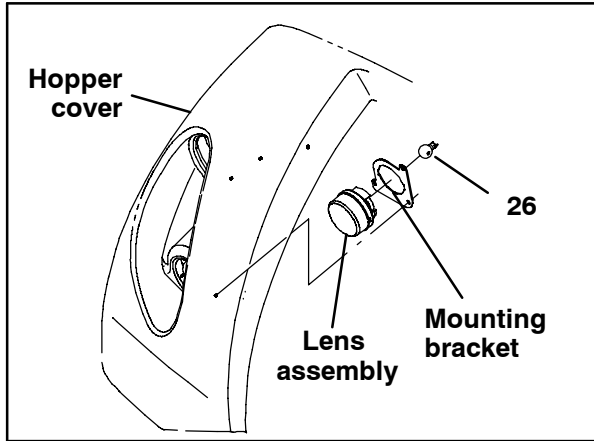

FIG. 19
- Remove the hopper harness light receptacles from the lens assemblies in the hopper cover, insert a light (26) into each receptacle, and reinsert the receptacles into the lens assemblies. Refer to Fig. 19.